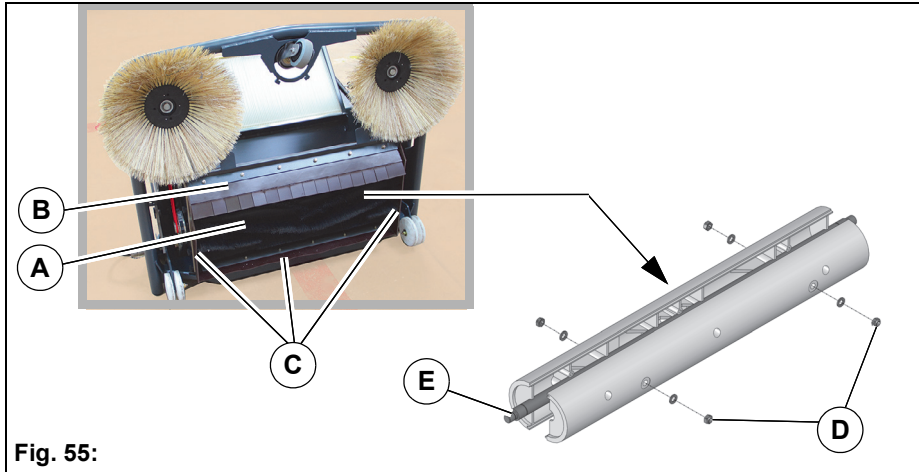

Fig. 55:
Inspect the cylindrical brush **Fig. 55-A** and the cylindrical brush compartment for soiling daily and clean if necessary.
5. Inspect the front apron **Fig. 55-B** and the sealing strips **Fig. 55-C** for soiling daily and clean if necessary.
4. Loosen the nuts and washers **Fig. 55-D** and remove the first half shell.
In the event of bristle wear and after replacing the cylindrical brush, the sweeping level **Fig. 55-A** must be readjusted.